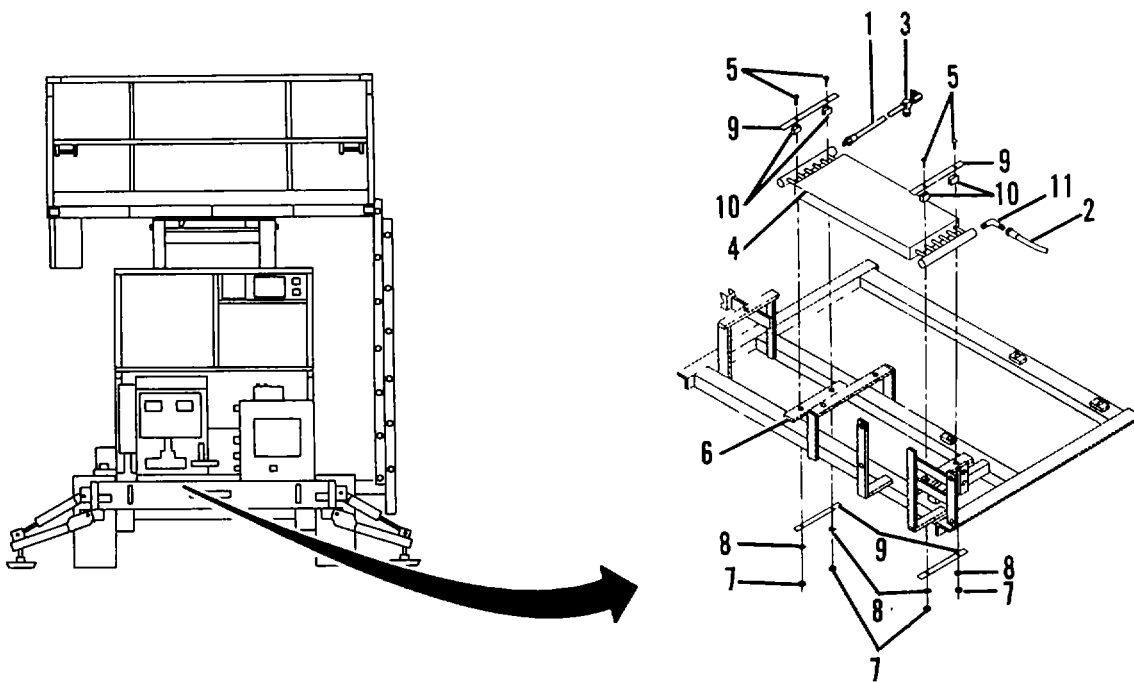

Figure 4-22. Oil Cooler Replacement (Sheet 1 of 2).
- (1) Tag the outlet hose (1, Figure 4-22) to the return filter for ease of identification during installation. Place a drip pan beneath the oil cooler to catch waste hydraulic fluid.
- (2) Using two wrenches, disconnect outlet (1) hydraulic hose at the swivel fitting (3). Access hose from below.
- (3) Remove any plastic tie straps that may be attached to oil cooler (4) or hoses and discard.
- (4) Remove outlet (1) and inlet (2) hoses from oil cooler (4).
- (5) Loosen capscrews (5) securing cooler (4) to frame (6).